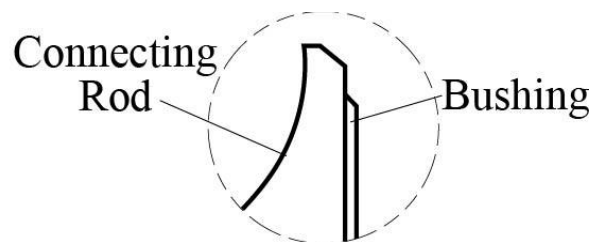

Figure 8
(2) If the chamfer of the connecting rod and the chamfer of the connecting rod bushing do not align (Figure 8), the connecting rod bushing has moved within the connecting rod. Remove, discard, and replace the connecting rod bushing. Contact Lycoming Engines' Product Support at +1 (877) 839-7878 (Toll Free) or +1 (570) 327-7222 or email Technicalsupport@lycoming.com.